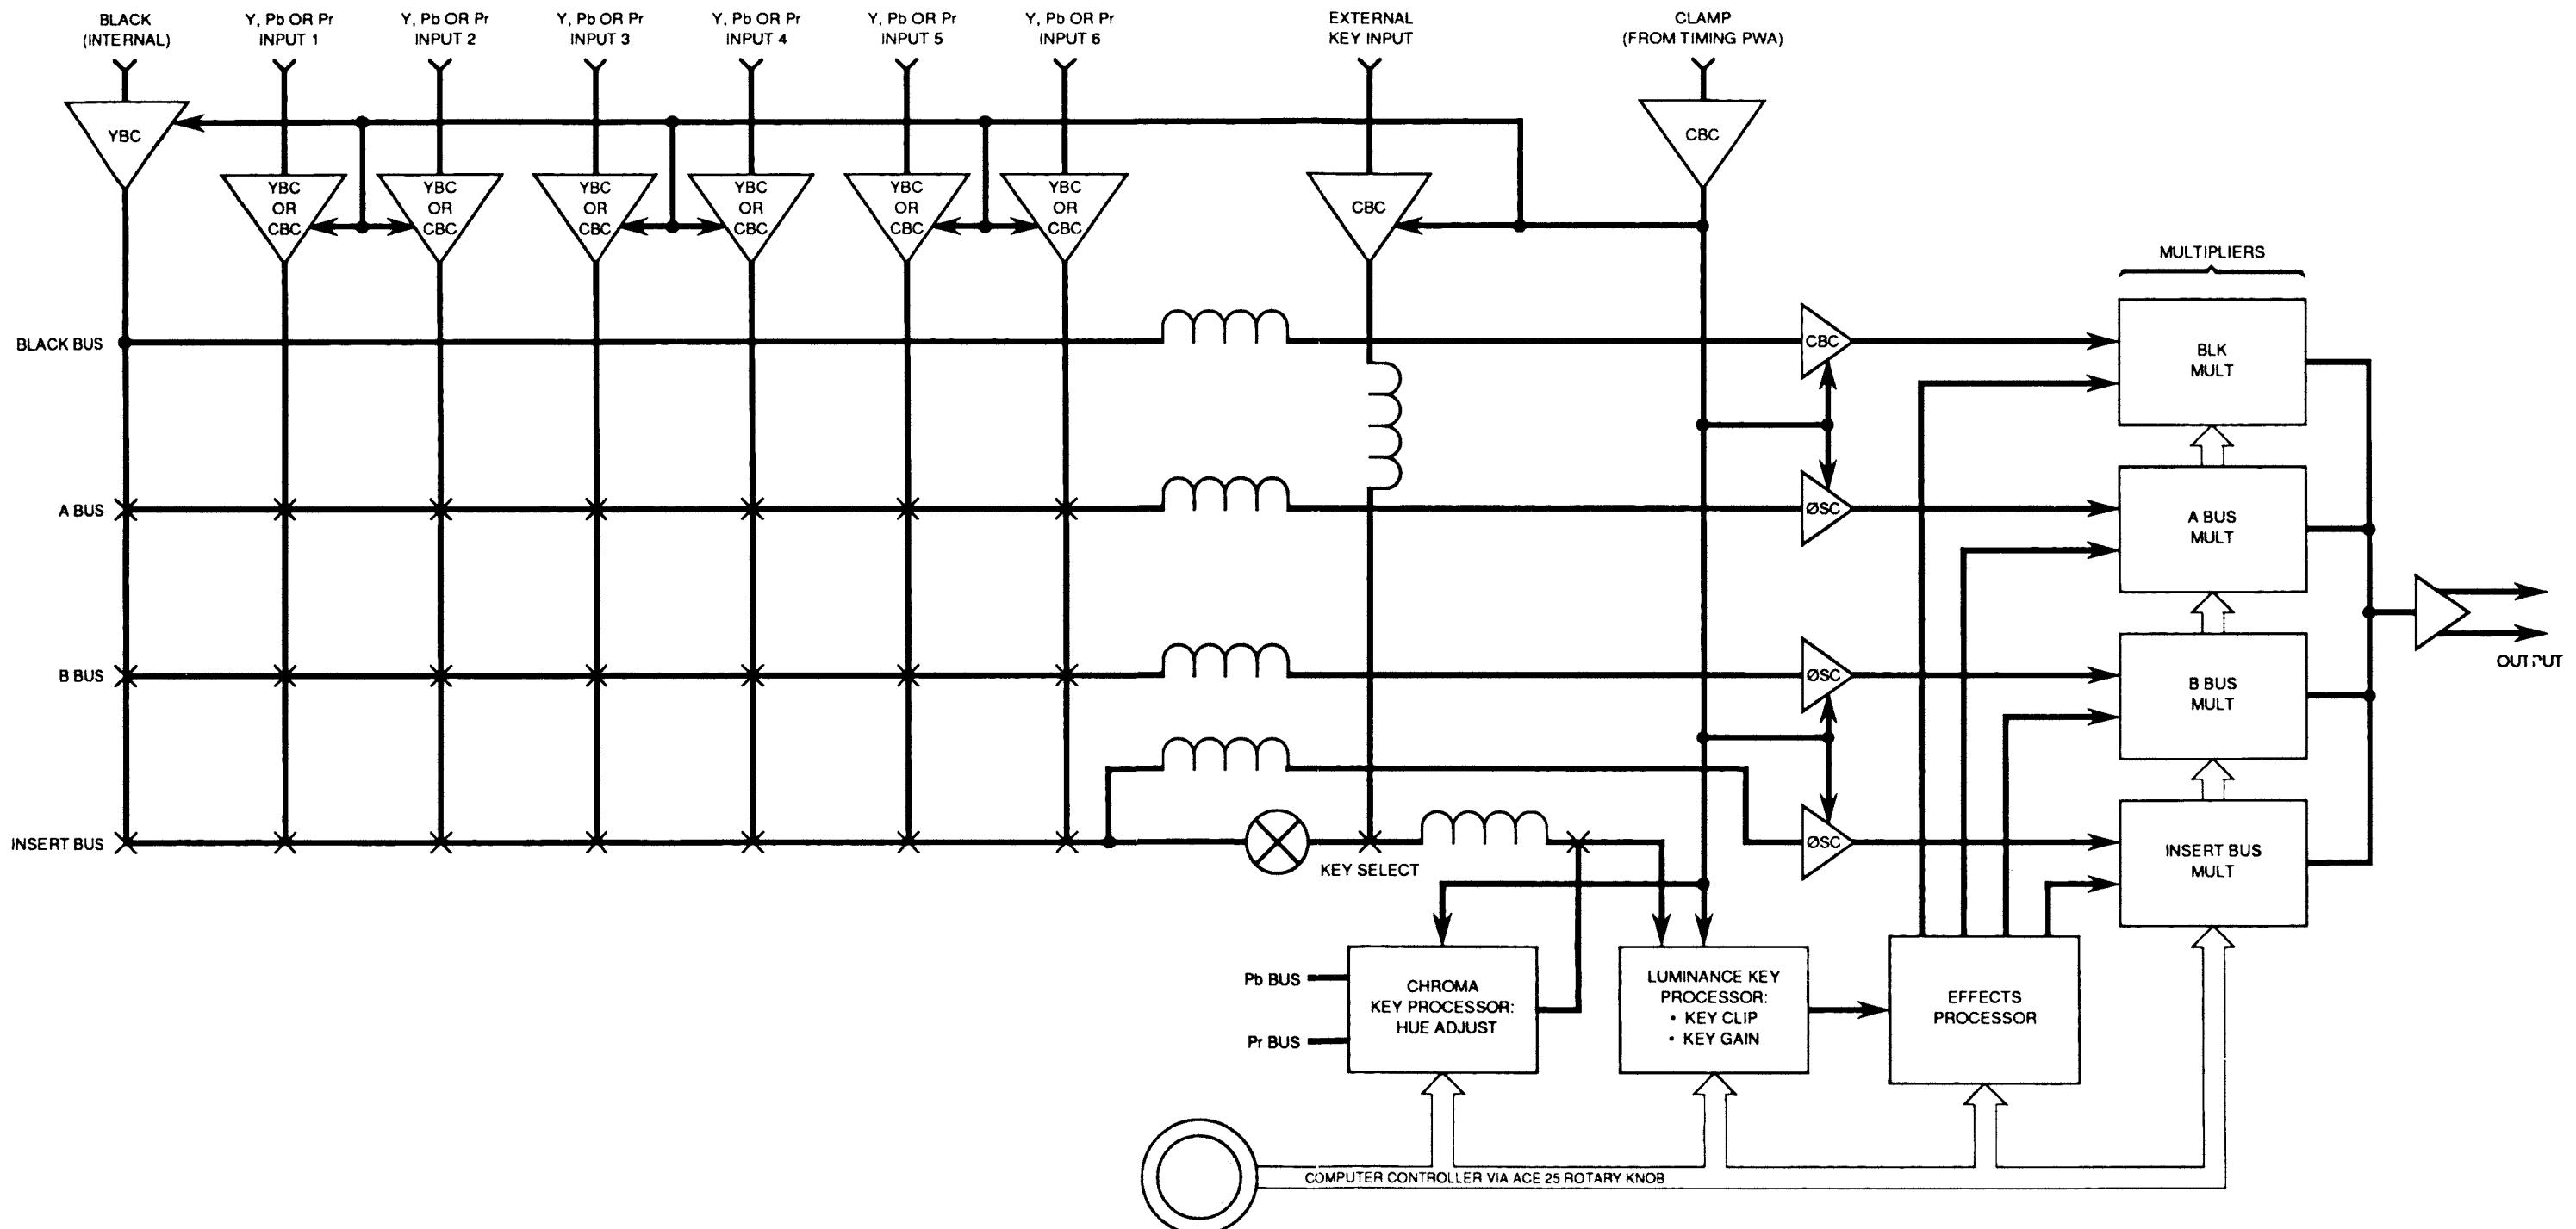

Figure 14-2.
The following paragraphs describe theory of operation for the Component Video Switcher PWA and its primary circuits. Figure 14-2 is a diagram showing the main video signal paths for the Y channel on the Component Video Switcher PWA. The Composite Video Switcher PWA processes three video signal channels: Y, Pr, and Pb. Y is the luminance signal, and Pr and Pb are the color difference signals. The Pb and Pr (color difference) channels are similar to the Y channel, with differences noted.
The Black input passes through a buffering circuit (shown as a triangle labeled "YBC" in Figure 14-2). The six external inputs for the Y channel pass through "YBC" buffering circuits. The six external inputs for the Pr and Pb channels pass through "CBC" clamping and buffering circuits. The external key input is used with the Y channel only, and passes through a "CBC" circuit. The primary difference between the "YBC" and "CBC" circuits is the use of the clamp signal for the "CBC" circuit. The Y channel inputs are clamped from sync tip, which may not be present in the Pr and Pb signals.
The Insert Bus signal goes through the crosspoint stage where Black or one of the six video signals is selected. The Insert Bus output signal is then split into two signals. The top signal path goes through a delay stage into a phase-shifting clamp-buffer ("ΦSC") circuit, before entering the Insert Bus multiplier circuit. The bottom signal path goes to an auto-crosspoint (shown as an "X" within a circle in Figure 14-2). This auto-crosspoint is only present for the Y channel. The auto-crosspoint selects Black or one of the six video input signals. If the auto-crosspoint is closed, a chroma key can be selected at a later crosspoint. If the auto-crosspoint is open, the external key input can be used to cut a key (shown by the crosspoint labeled "KEY SELECT" in Figure 14-2). The lower Insert Bus video signal continues through a delay stage to a crosspoint, which is linked to the Chroma Key Processor. This crosspoint selects the video signal entering the Luminance Key Processor.
The Luminance Buffer-Clamp ("YBC") circuit (shown in Figure 14-4), does two things: (1) it performs an impedance transformation from high to low; and (2) it clamps the sync tip to ground (0V). Two emitter-follower stages are incorporated in the circuit, with a diode clamp in the middle. This circuit is used for the Y inputs (Black, Y1-Y6) shown in the top portion of Figure 14-2. Outputs from this circuit go into the crosspoint bus stage.